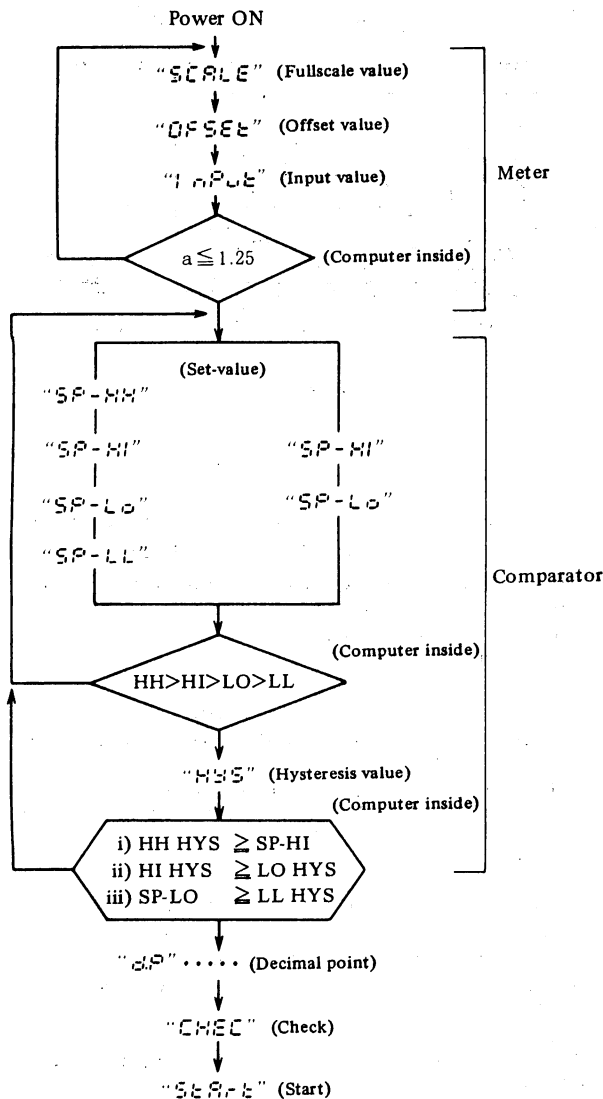

Fig. 9 Data Setting Flowchart
7. OPERATION PROCEDURE (See Fig. 9 Data Setting Flowchart.)